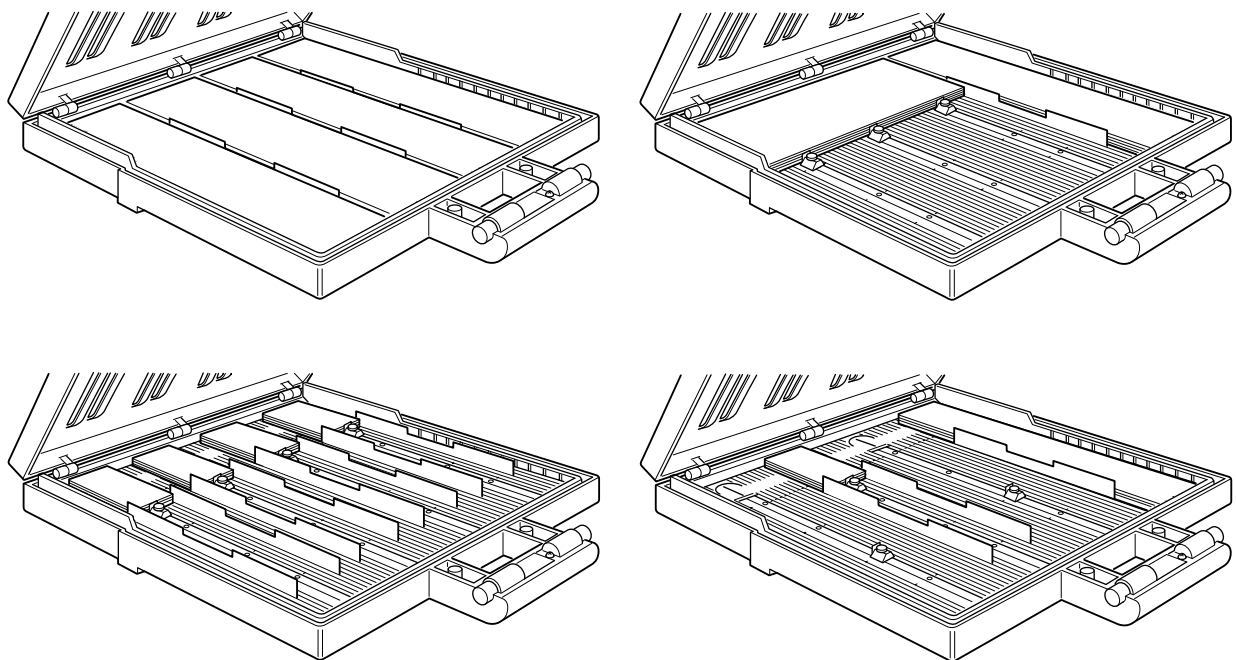

Figure 5 - One film size per track
- Use only one film size per track (fig. 5).
- Sort the films according to their sizes and insert them into the magazine as shown in figures 5 and 6.